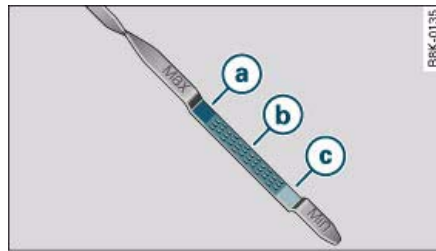
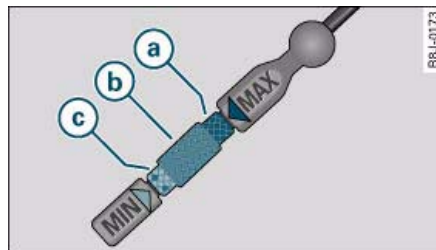

Fig. 253 Variant 1:
Fig. 254 Variant 2:
- Then pull the dipstick out again and check the oil level ⇒ fig. 253 or ⇒ fig. 254. If the oil level is too low, add more engine oil ⇒ *page 259*.
- The oil level must never be above area **(a)** ⇒ *page 258, fig. 254*, as this may result in damage to the catalytic converter or to the engine. On vehicles without an oil dipstick, you can check the oil level via the sound system or MMI*. Contact a qualified workshop to extract the engine oil if necessary.